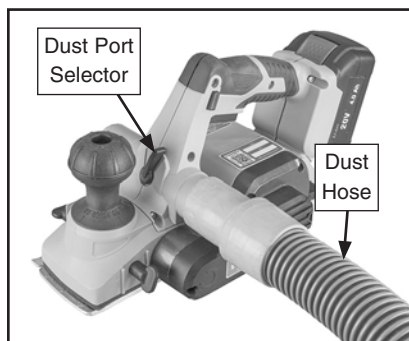

Figure 2. Dust collection installed.
1. Fit 1½" dust hose over dust port (see **Figure 2**) and secure in place with hose clamp.
2. Flip dust port selector so that chips only eject on side where dust collection system is installed (see **Figure 2**).